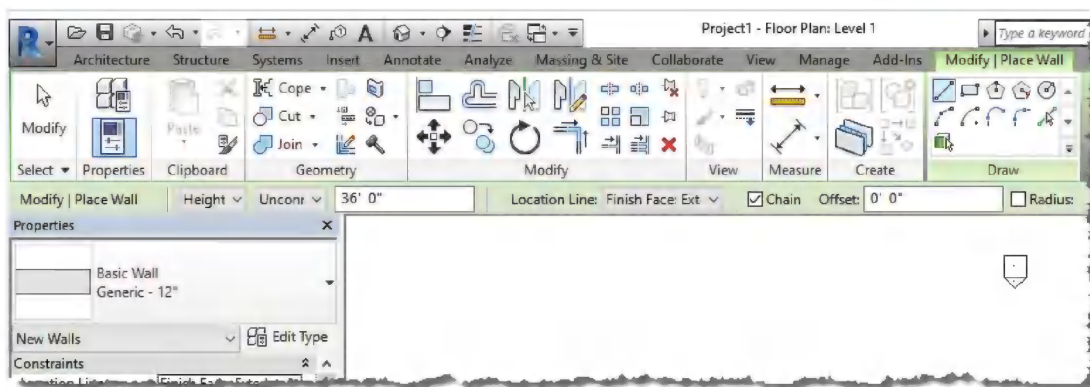

FIGURE 3-2.1 Ribbon, Options Bar and Type Selector: Wall tool active
2. Select the **Wall** tool from the *Ribbon* and then make the following changes to the wall options (Figure 3-2.1):
2. Make the following changes to the wall options on the *Ribbon*, *Options Bar* and *Type Selector* (Figure 3-2.1):